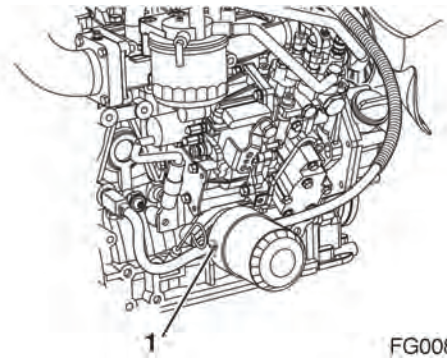

Figure 113
- On models equipped with an oil cooler, remove the coolant hose (1, Figure 113) at the oil cooler.